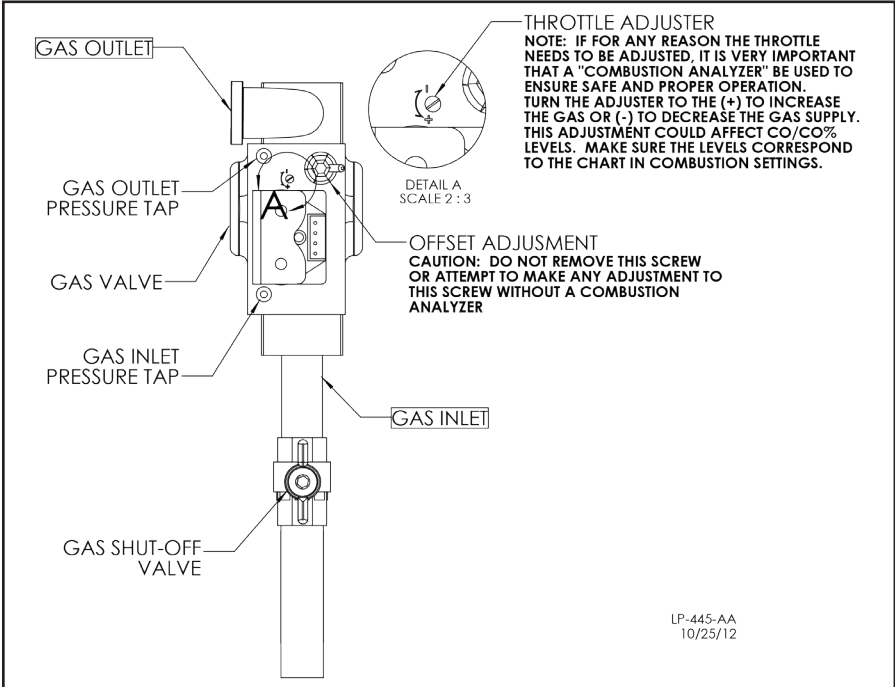

Figure 29 - 500 Gas Valve
2. Loosen the pressure tap with a small screwdriver. Refer to Figures 29 and 30 for location.